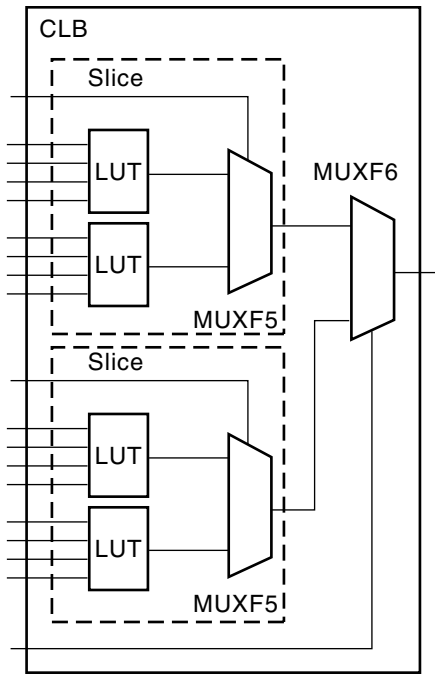

Figure 6: Spartan-IIE CLB Slice (two identical slices in each CLB)
The basic building block of the Spartan-II[®]E FPGA CLB is the logic cell (LC). An LC includes a 4-input function generator, carry logic, and storage element. The output from the function generator in each LC drives the CLB output or the D input of the flip-flop. Each Spartan-II[®]E FPGA CLB contains four LCs, organized in two similar slices; a single slice is shown in Figure 6.